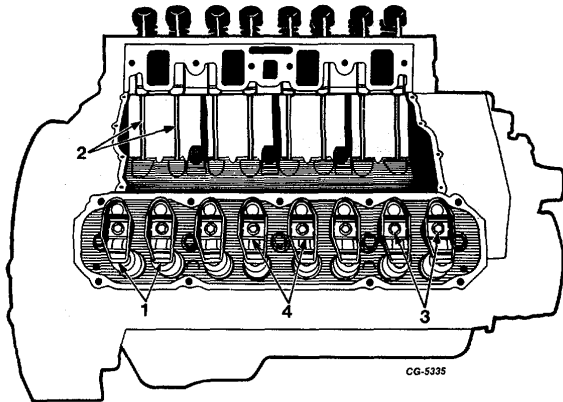

Fig. 42 Rocker Arm Removal
44. Remove flange head bolts securing rocker arms to cylinder heads, Figure 42. Remove rocker arms and pivots j from cylinder heads.